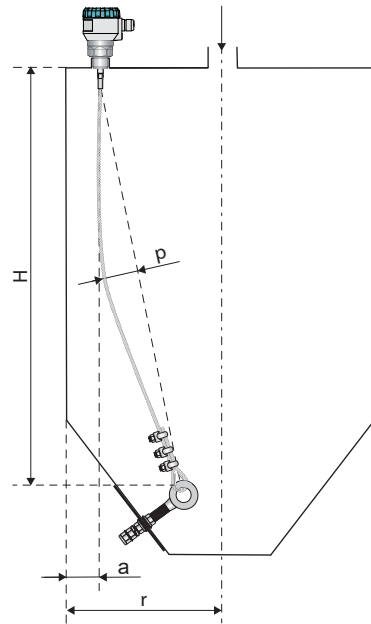

Fig. 23: Recommended installation of the level meter with anchoring on the same side of the silo
same side of silo (Fig. 23)	$\geq 1000 + H/20$
- The rope can be anchored also on the same side of the silo, see Fig. 23.